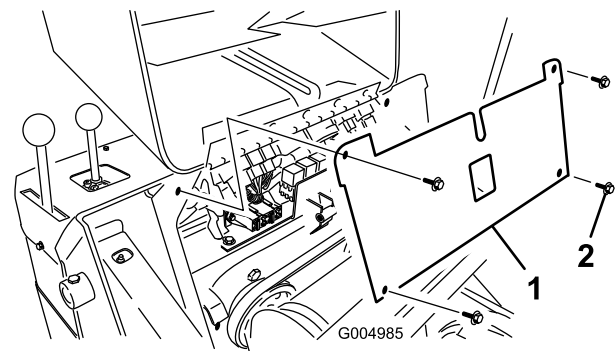

Figure 45
4. Remove the 4 screws securing the fuse panel and then pull the panel out and up to remove it (Figure 45).